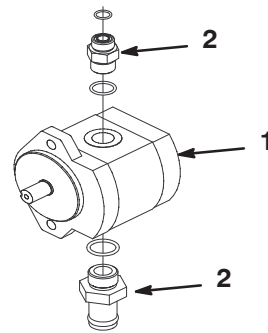

Figure 6
15. Install the straight fittings into the hydraulic pump as shown in figure 6. Make sure the O-rings are lubricated and in place.